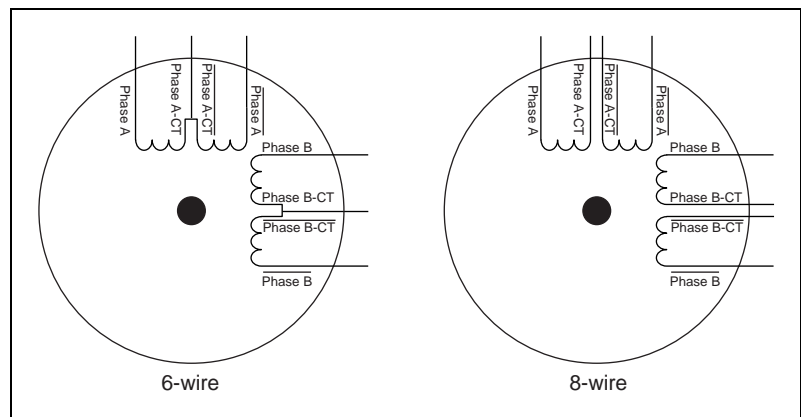

Figure 15. 6-Wire and 8-Wire Stepper Motors
2-phase stepper motors come in 4-, 6-, and 8-wire variations. Figure 15 shows a 6-wire and an 8-wire stepper motor respectively. A 4-wire motor is the same as a 6-wire motor except that the center taps (CT) are not brought out.